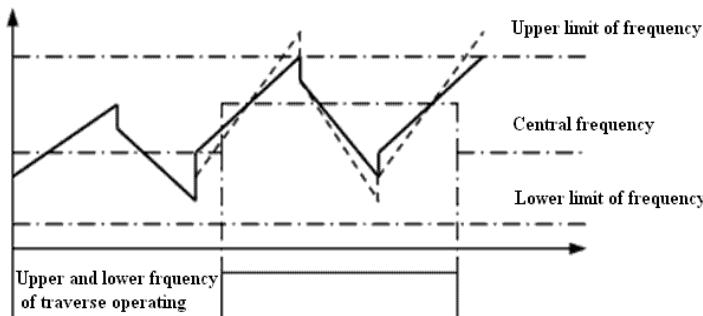

Fig.4-25 Upper and lower limits of traverse operating frequency
- 19: Upper and lower limits of traverse operating frequency** . An indicate signal will be output if the traverse operating frequency calculated by central frequency is higher than upper limit of frequency (P0.19) or lower than the lower limit of frequency (F0.20), as shown in Fig. 4-25.